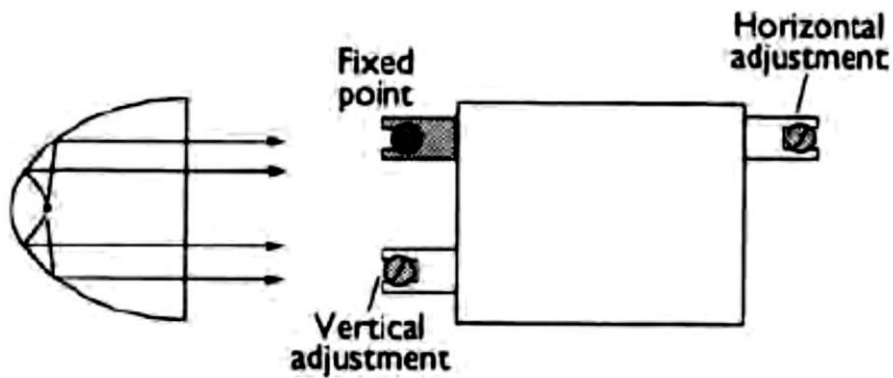

Figure 11.10 Principle of headlight aiming
- The practicality of headlight aiming is represented by Figure 11.10. Adjustment is by moving two screws positioned on the headlights, such that one will cause the light to move up and down the other will cause side-to-side movement.